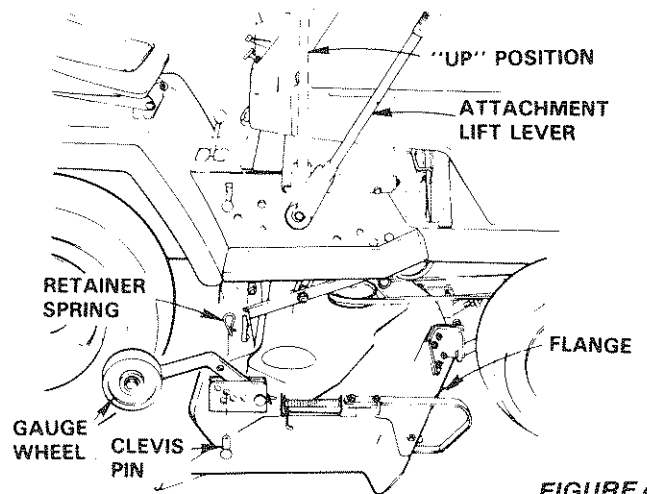

FIGURE 44
- With mower deck at desired height, set gauge wheels (Fig. 44) to lowest position without touching the ground.
- Use clevis pin (Fig. 44) to set gauge wheels at lowest point without touching the ground.